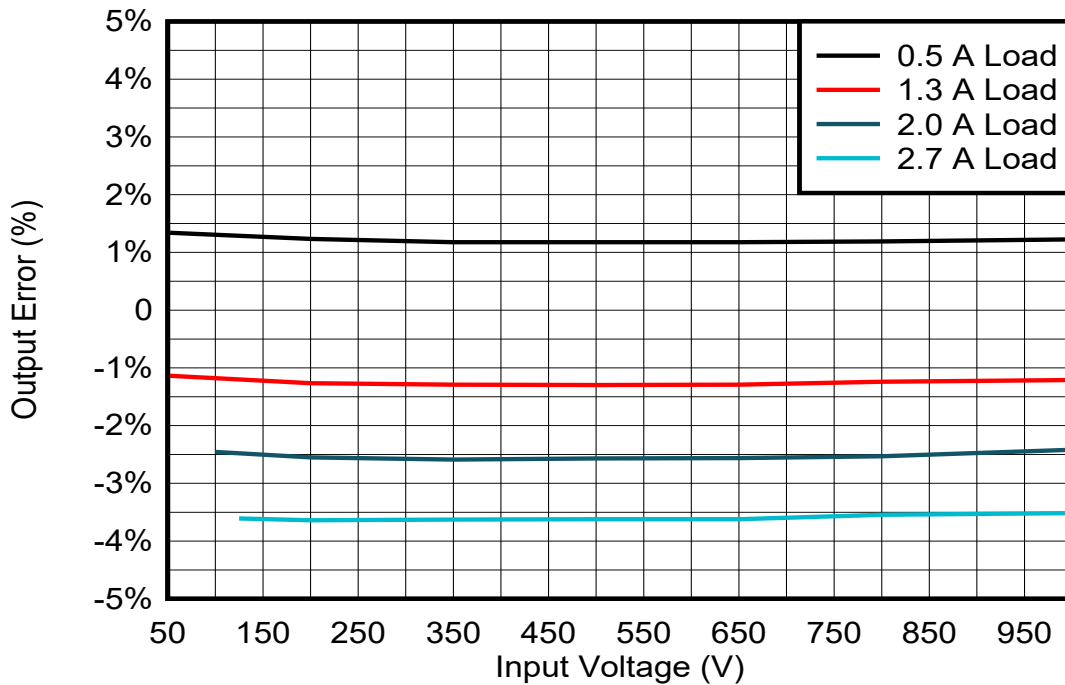

Figure 5-6. UCC28C56EVM Line regulation, various loads
6. Turn on the VIN supply at 50 V. The oscilloscope should trigger and produce the waveforms shown in figure 5-6. If your result is the same as figure 5-6 then your EVM is functioning correctly, thus far. If your result does not resemble figure 5-6 then stop. Troubleshoot the EVM at 50 VIN. Do not increase VIN until after troubleshooting.